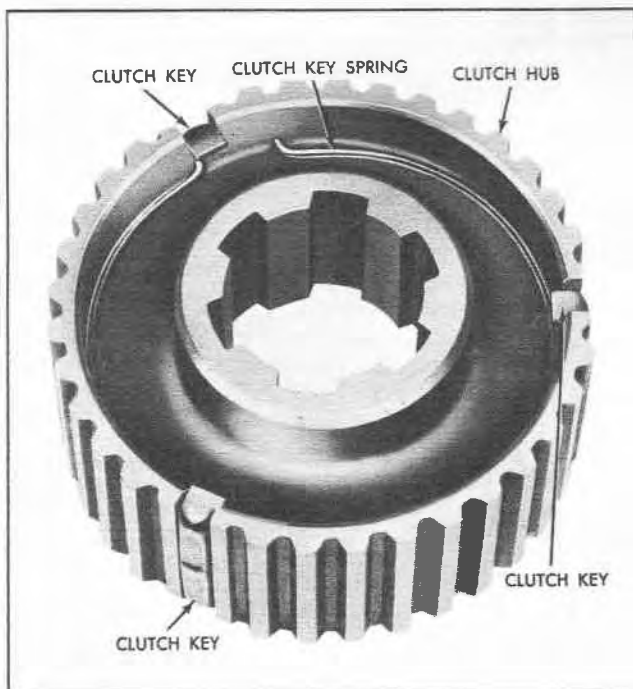

Fig. 15 Clutch Keys and Synchronizer Springs Installed on Clutch Hub
3. Remove two clutch key springs and three clutch keys from clutch hub (Fig. 15).
6. Assemble clutch key springs in 2nd and 3rd speed clutch hub, with one end of each spring in the same slot and the other end free and place three clutch keys in slots in hub (Fig. 15).